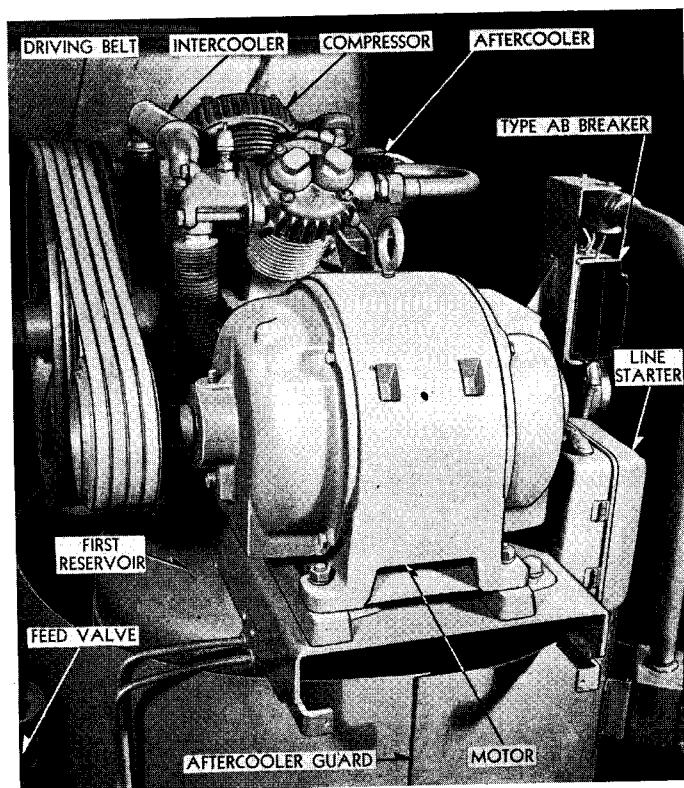

FIG. 4—SINGLE AIR COMPRESSOR FOR SUPPLY UNIT
- Fig. 4. Single Air Compressor for Supply Unit.
The single compressor supply unit (Fig. 4) will normally be supplied with a Type 2YC compressor, 4 and  $2\frac{1}{8} \times 2\frac{3}{4}$ , which at 450 rpm delivers an average of 6.4 cfm of free air, charging the storage reservoirs of the unit from atmospheric to full working pressure of 250 psi in 90 minutes. For installations in which for operating reasons it may be desirable to decrease this charging time, the unit can be supplied with a Type 3YC compressor, 5 and  $2\frac{1}{2} \times 3\frac{1}{2}$ , which at 500 rpm delivers approximately 15 cfm of free air, charging the unit to full working pressure in 38 minutes.